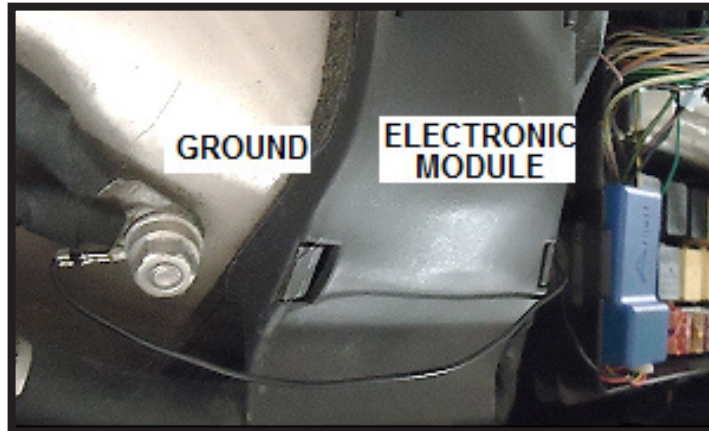

FIGURE 42
4. RUN THE GROUND WIRE FROM THE ELECTRONIC BYPASS MODULE TO THE NEAREST VEHICLE GROUND TERMINAL. (FIGURE 42)